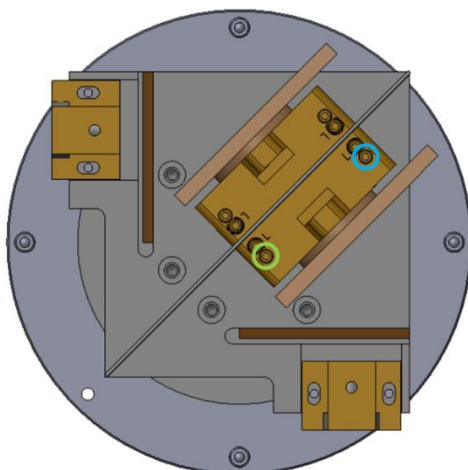

Figure 38: Location of adjustment setscrews on FLS1000 LLG launcher.
4. Starting with the screw circled in green in Figure 38, rotate the screw one full turn and replace the pan lid to check the effect on the signal rate. It is worth waiting for ten seconds to get an idea of the effect the change has made to the signal level:
<p>Figure 38: Location of adjustment setscrews on FLS1000 LLG launcher.</p>